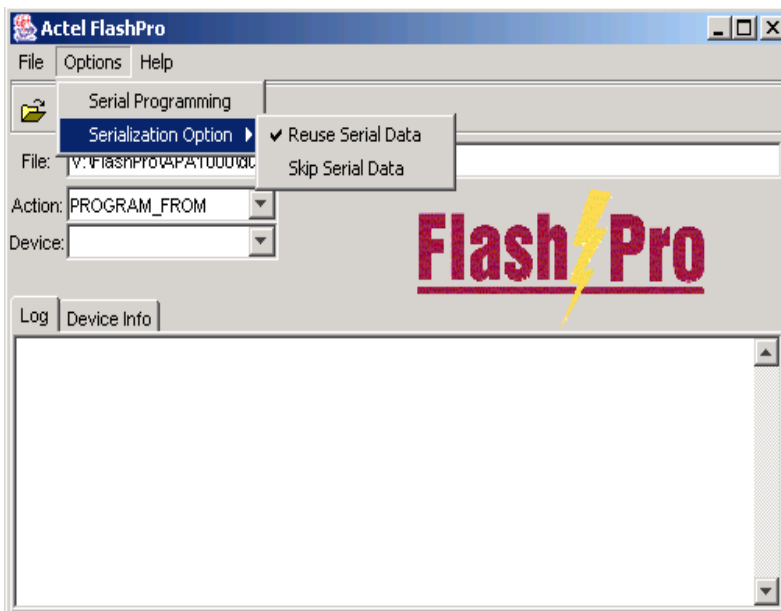

Figure 4-32. Serialization Option
2. Select either *Reuse Serial Data* or *Skip Serial Data*. See Figure 4-32.